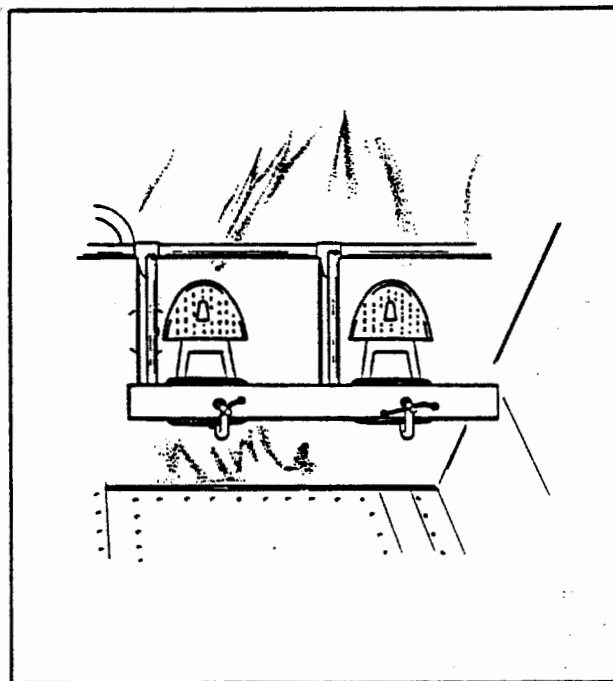

Figure 5-11. Clamping Rudder Pedals
3. Clamp the rudder pedals, so they align in a lateral position as shown in Figure 5-11: